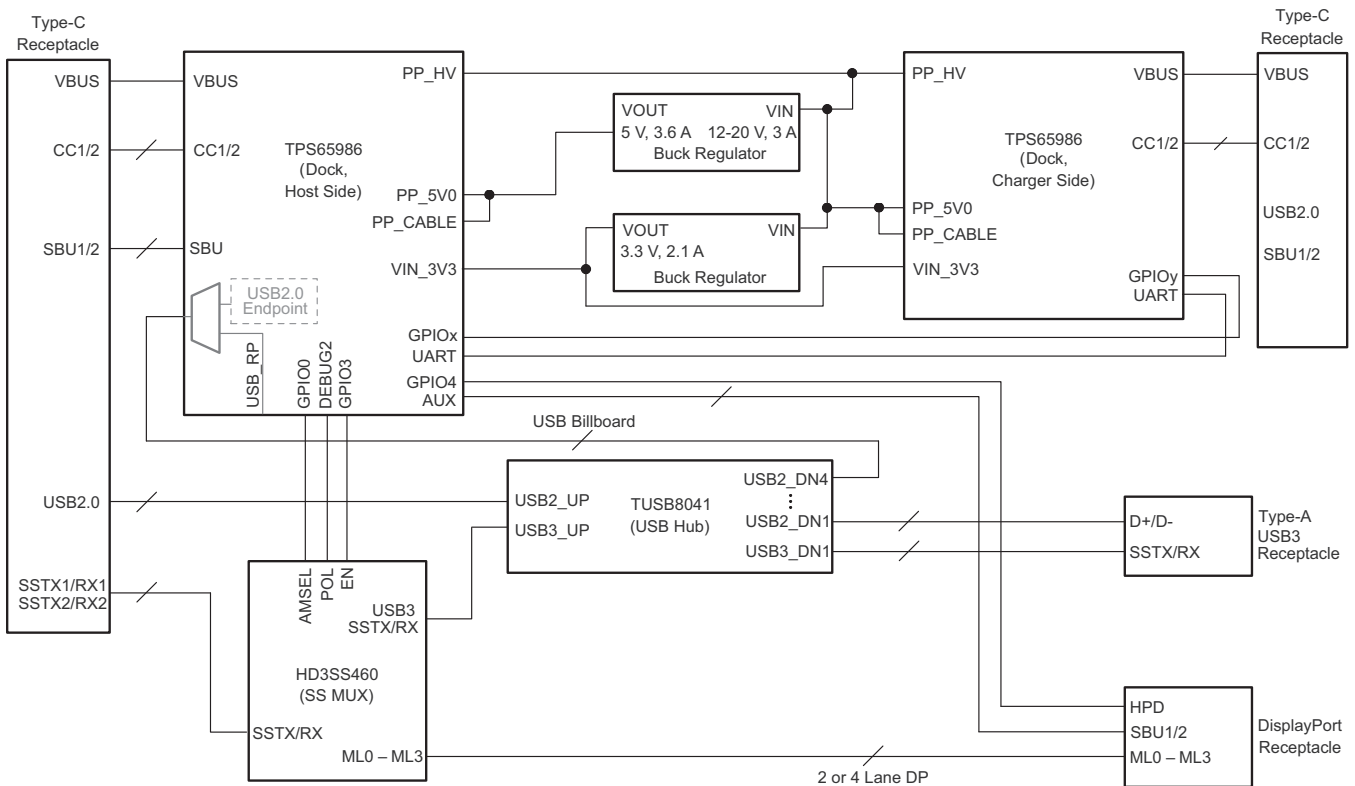

Figure 78. Type-C and PD Dock Application
The TPS65986 controls two separate power paths making it a flexible option for Type-C and PD dock application that simultaneously charges a USB PD DisplayPort video source (for example, a notebook computer). The dock application of the TPS65986, shown in Figure 78, uses a common node for PP_HV of both TPS65986 devices and uses a GPIO to sense when a charger is present on the charger-side TPS65986. The host-side TPS65986 will automatically enable a Source PDO to charge the notebook connected at the Type-C port and initiate a Power Role Swap PD message if the laptop was connected to the dock first. When the notebook is connected first and the charger is not present, the dock will boot from VBUS in No Battery mode and provide power to VIN_3V3, the Type-A USB3 receptacle, the video receptacle, and support circuitry. Refer to Figure 79 for a timing diagram showing the dock behavior when it is bus-powered from the host-side and Figure 80 for a timing diagram when the dock is line-powered from the charger-side. In the timing diagrams, the host -side is referred to as the Left (L) side and the charger-side is referred to as the Right (R) side, the same orientation shown in the Figure 78 block diagram. The video receptacle can be DisplayPort, HDMI, or VGA although only DisplayPort is shown in Figure 78. The dock application uses a Type-C receptacle and an HD3SS460 SuperSpeed multiplexer which is controlled by the host-side TPS65986. The CC1/2 pins of the TPS65986 will detect cable orientation and 2-lanes of DisplayPort video or 4-lanes of DisplayPort video depending on the Alternate Mode configured by the host.